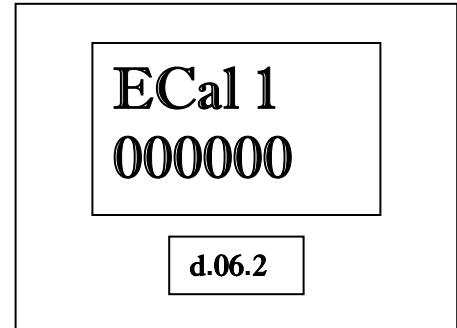

Figure 44
6.2 – E CAL 1. The display in Figure 44 appears. The PPV display shows the dispenser is in Diagnostics Level 6.2.